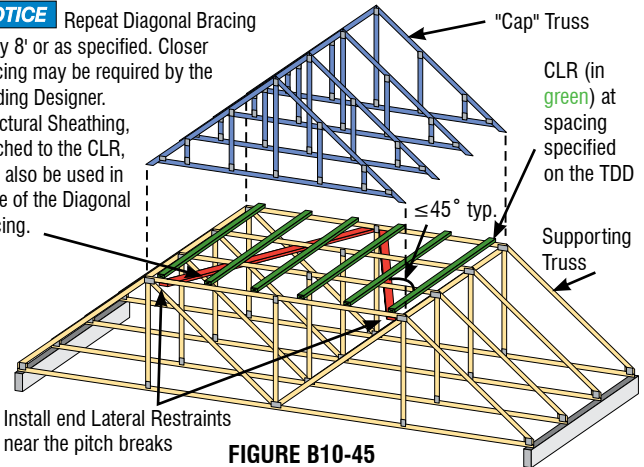

FIGURE B10-45
- CLR and Diagonal Bracing using stress-graded lumber (Figure B10-45)